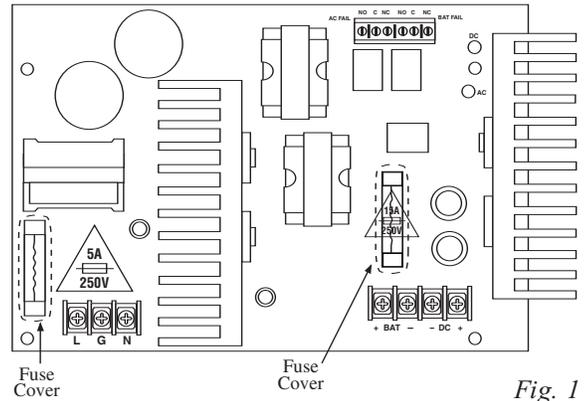

Fig. 1
2. Connect unswitched AC power (115VAC 60Hz) to terminals marked [L, G, N] (Fig. 1). Use 14 AWG or larger for all power connections (Battery, AC input, DC output). Use 22 AWG to 18 AWG for power limited circuits (AC Fail/Low Battery reporting). **Keep power limited wiring separate from non-power limited wiring (115VAC / 60Hz Input, Battery Wires). DC output Minimum .25" spacing must be provided.**
3. Connect devices to be powered to terminals marked [- DC +] (Fig. 1).
5. For Access Control applications, batteries are optional. When batteries are not used, a loss of AC will result in the loss of output voltage. When the use of stand-by batteries is desired, they must be lead acid or gel type. Connect battery to terminals marked [+BAT -] (Fig. 1).
6. It is required to connect appropriate signaling notification devices to AC FAIL & BAT FAIL (Fig. 1) supervisory relay outputs. Use 22AWG to 18AWG wires. AC FAIL will report in 5 minutes.